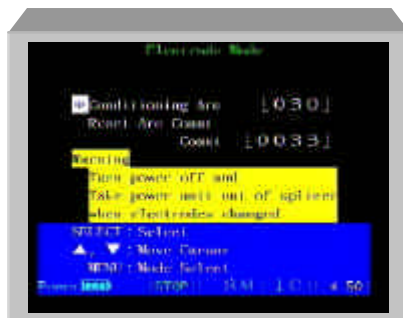

Figure 57. Electrode Mode
5. As shown in Figure 57, choose CONDITIONING ARC and press "SELECT" to begin the process.
6. The electrodes will automatically arc 30 times. When this is complete, the splicer will return to the ELECTRODE MODE menu screen as shown in Figure 57.